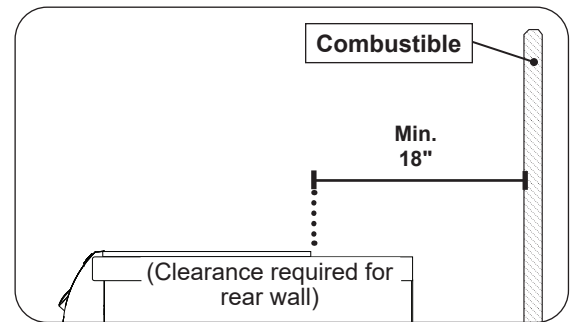

Fig. 18-3 Clearance 'C' Diagram
- The unit must have a minimum clearance of 18" from the combustible rear wall (see Fig. 18-3).